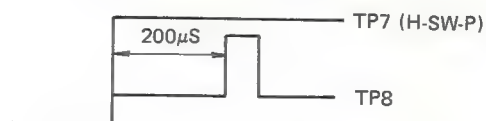

Figure 43
3. Selecting (+) sync slope with the oscilloscope, adjust R753 to meet the requirement given in Figure 43.